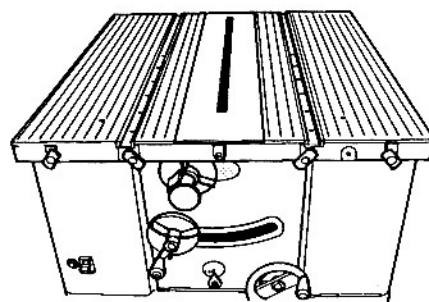

Fig. A-34
39. Repeat Steps 36 - 38 to install three other locking plates, carriage bolts, washers and nuts along the front edge of the table at locations, as illustrated in Fig. A-34. **DO NOT** attach one in the center hole of the table.